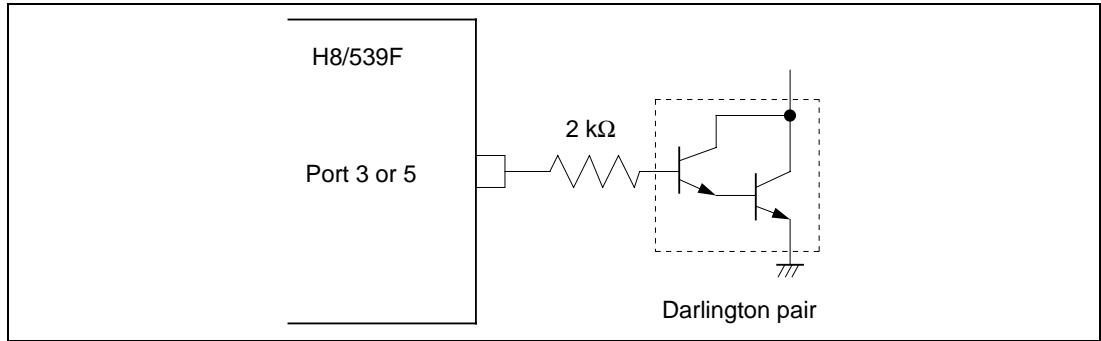

Figure 24-1 Darlington Pair Drive Circuit (Example)
- When driving a Darlington pair or LED, always insert a current-limiting resistor in the output line, as shown in figures 24-1 and 24-2.